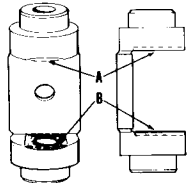

Fig. 18
11. Check **CONNECTING ROD** for wear. If there are visible signs of wear—or if you should find a depth more than .005" at points A and B in Figure 18, the rod should be replaced.